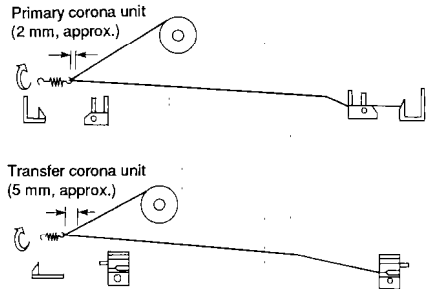

Figure 4-70
5) Hook the loop of the corona wire as shown in Figure 4-70, and fit the wire along the V-groove of the height adjusting block. Hook the corona wire tension spring on the corona wire, and turn the spring three to four times as shown in Figure 4-70.